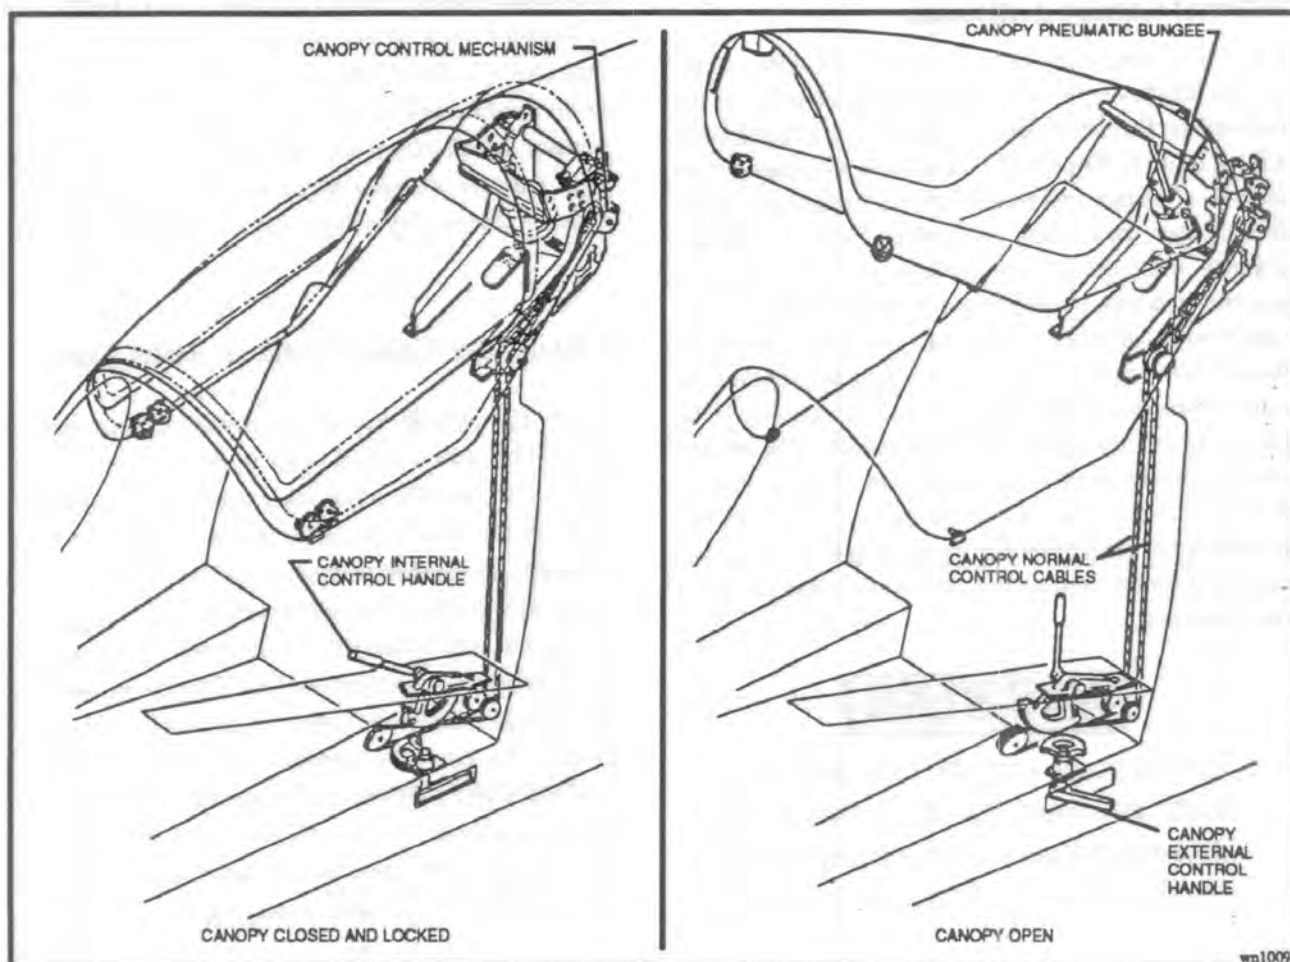

Figure 1-35 Canopy Control System - Normal Operation
1.270 The cockpit canopy, shown in Figure 1-35, is hinged at the rear and moves back and up when opened. When closed, the canopy is held in place on both sides of the canopy rail by latch hooks which engage fixed rollers on the cockpit rails. An air bungee cylinder, mounted